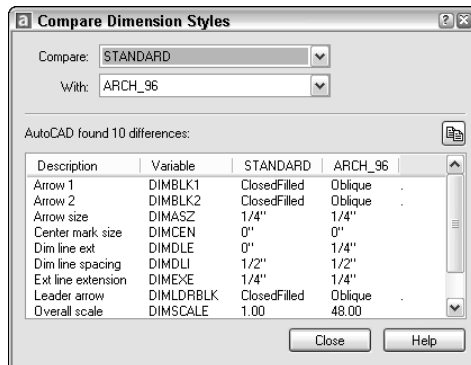

Figure 15-34: The Compare Dimension Styles dialog box enables you to compare the properties of two dimension styles
1. Choose Dimension Style from the Dimension toolbar and choose Compare. AutoCAD opens the Compare Dimension Styles dialog box, shown in Figure 15-34.